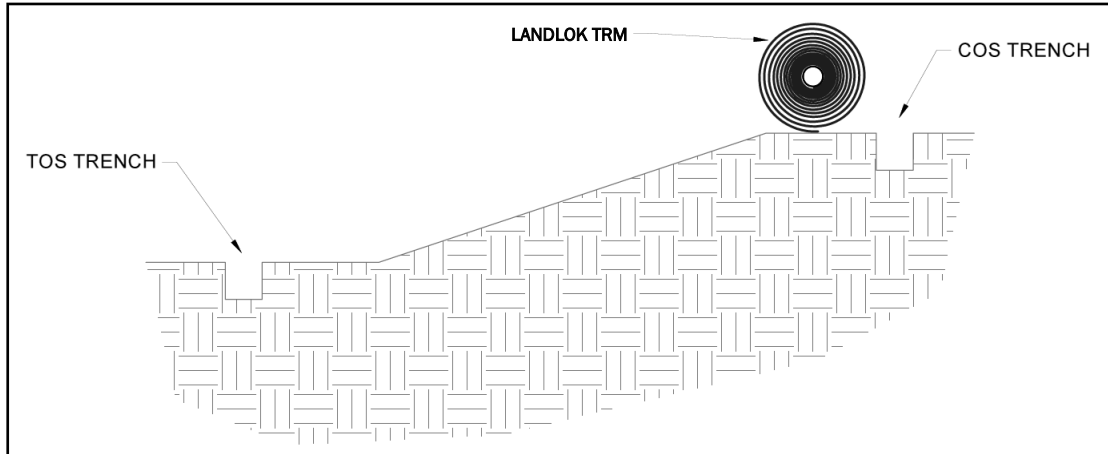
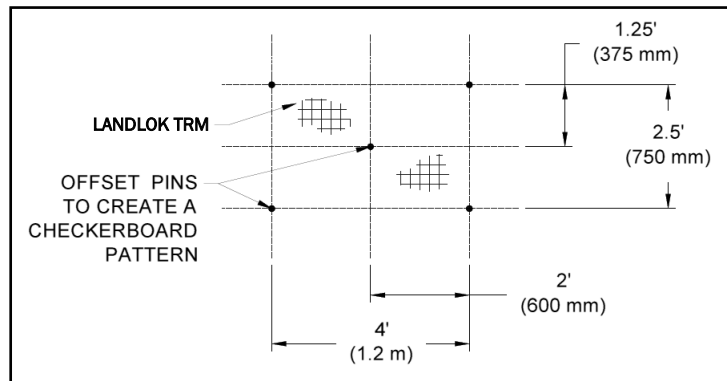
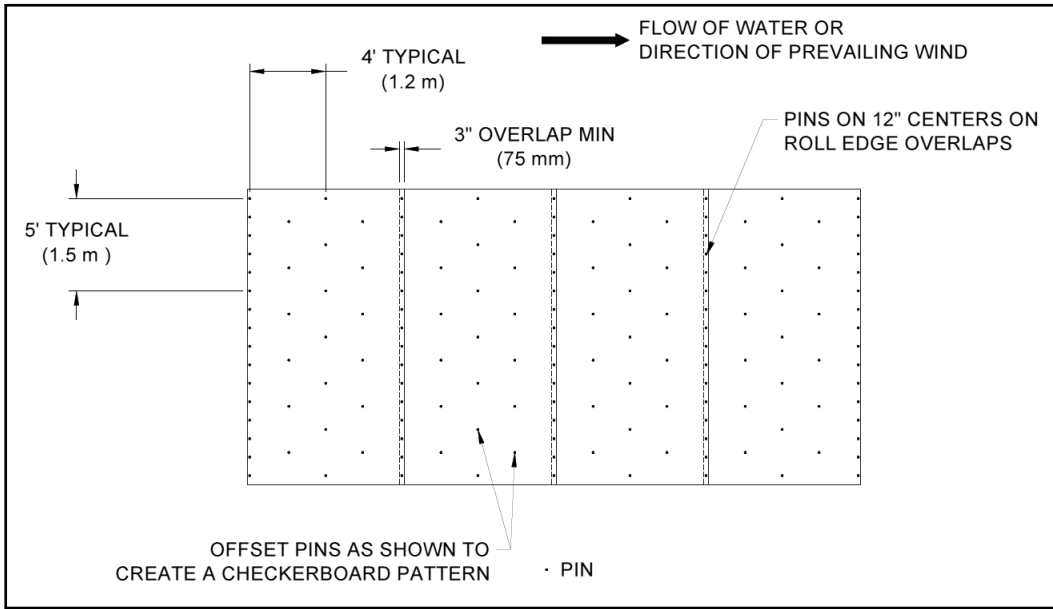
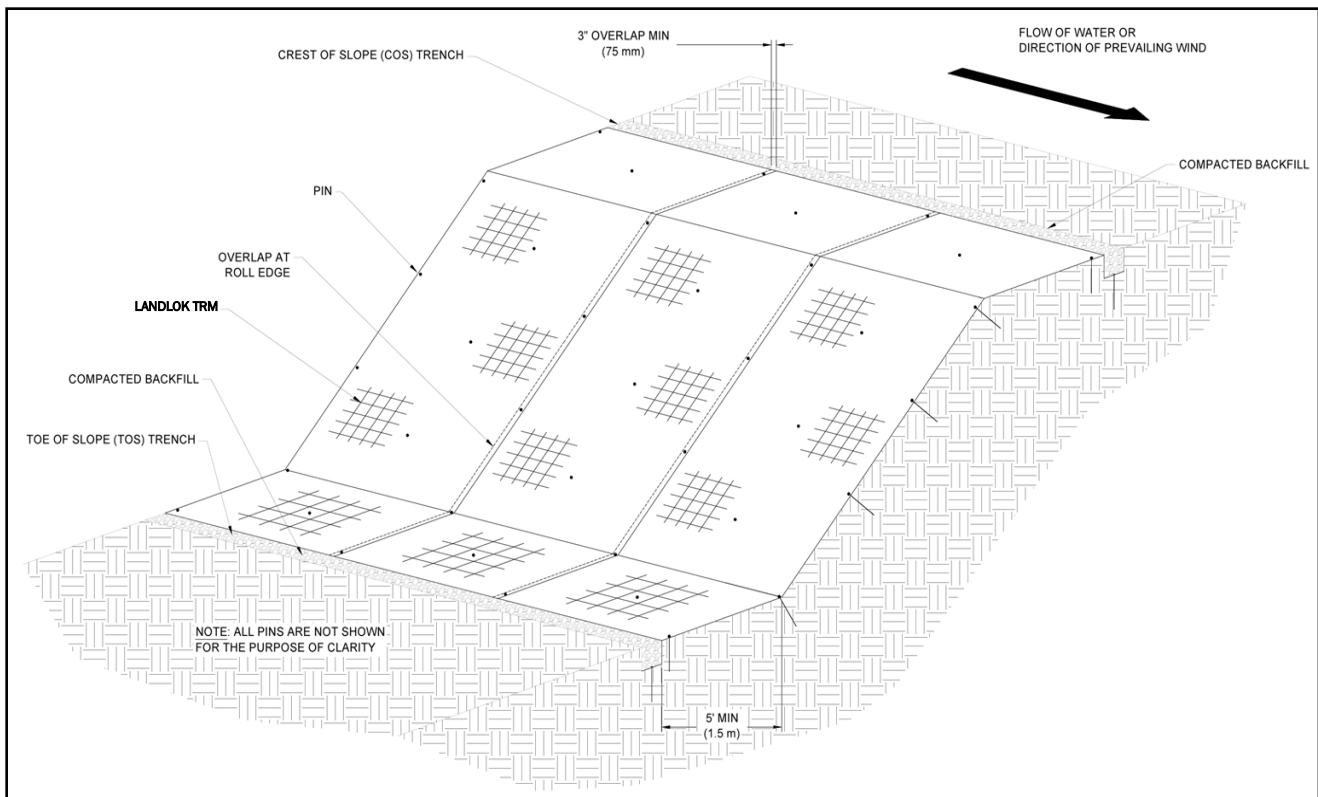

Figure 3: Crest of Slope (COS) Trench Alignment
Figure 7: Example Pin Pattern
Figure 8: Example of Panel Overlap
Figure 13: Completed Slope Isometric View
- Starting at the COS trench, lay LANDLOK roll so that the roll ends point towards the crest of the slope (Figure 3), with a 3 inch (75 mm) overlap created at adjacent panel edge locations. Ensure that adjacent panel edges maintain a minimum 3 inch overlap during LANDLOK laydown. (Figure 8)
6. Secure LANDLOK panels in place using pins across the slope surface according to the project's engineered design. Pin placement should reflect a staggered checkerboard pattern across the slope surface for best results (Figure 7 and Figure 8).
- Roll edges shall be overlapped a minimum of 3 in (75 mm) with pins placed on 12 in (300 mm) centers (Figure 8).
9. Continue to work down the length of the slope by repeating steps 1 through 8 overlapping each adjacent LANDLOK panel by 3 inches (75 mm) (Figure 8). The last LANDLOK panel should terminate on the Slope Armoring Edge (SAE) with pins on 12 in (300 mm) centers. At a minimum, LANDLOK panels should be pinned entirely across the slope surface, pins should be installed in the trenches, and the trenches should be backfilled and compacted at the end of each day to minimize rework in the case of a major rain event. Specific project conditions may warrant further evaluation of installation order for ease. An example isometric view (Figure 13) of a slope armored with LANDLOK can be seen below for overall reference. Consult Propex Engineering Services at (423) 553-2450 with any questions that you may have.